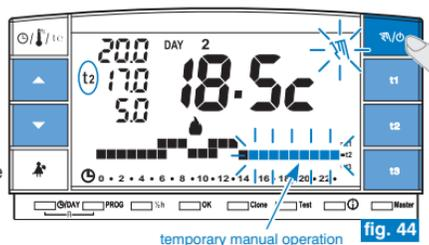

fig. 44
- Briefly press the “” key: the symbol “” will blink and the current temperature level will be applied to the remaining hours of the day (example in fig. 44).